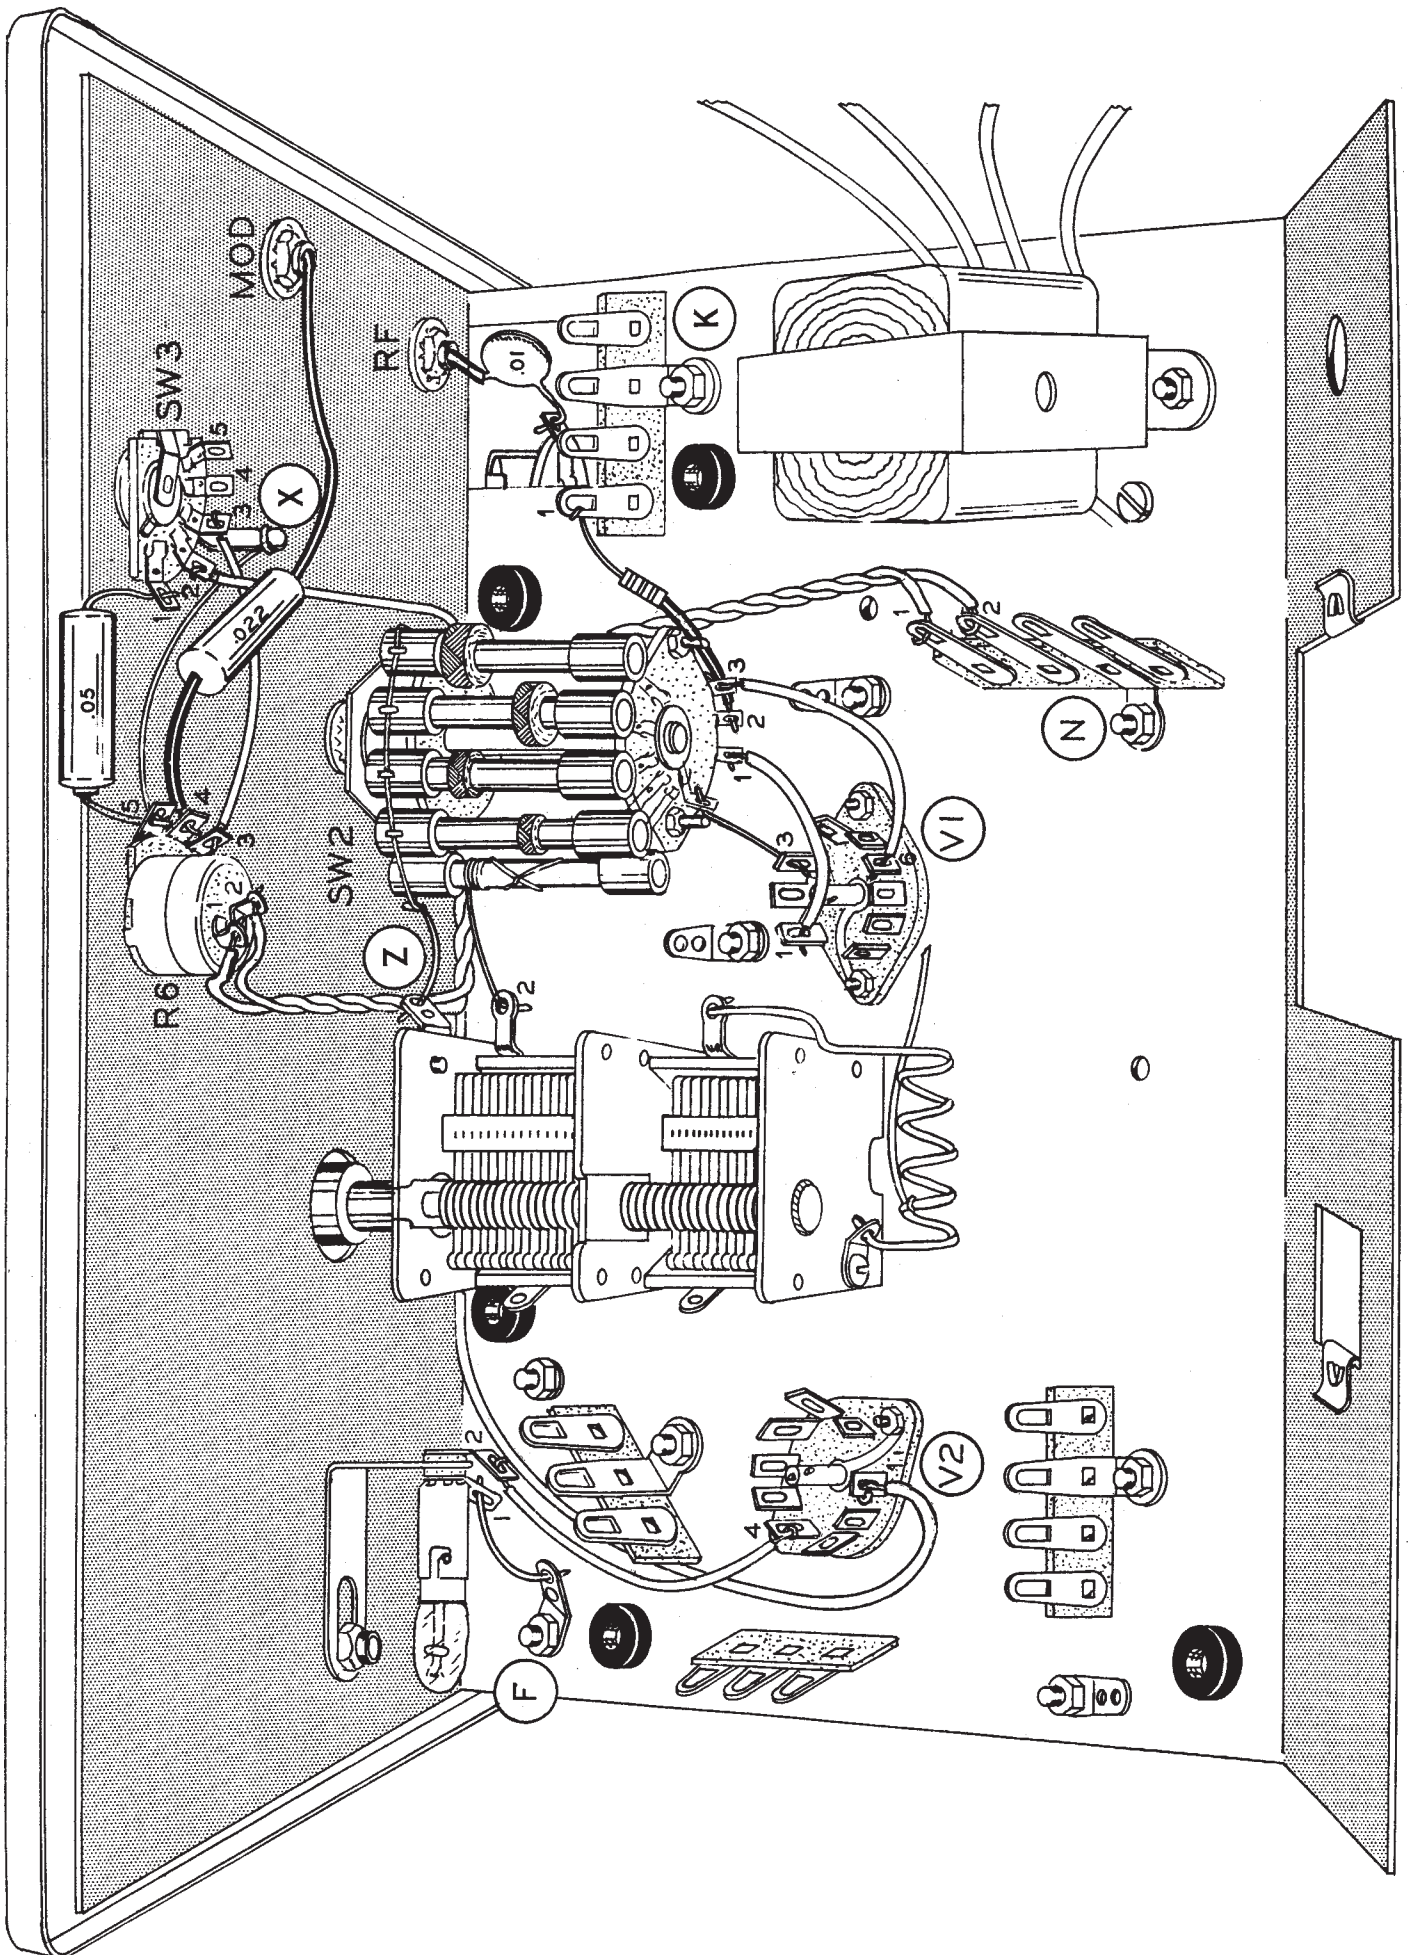

Figure 5
- ( ) Refer to Figure 5 and mount the front panel to the chassis with the modulation control R6 (#19-11). Use a control lockwasher between the control and the chassis. Use a flat control washer under the nut.
- ( ) Connect a 3" length of bare wire between lug 5 (NS) of control R6 and solder lug X (NS).